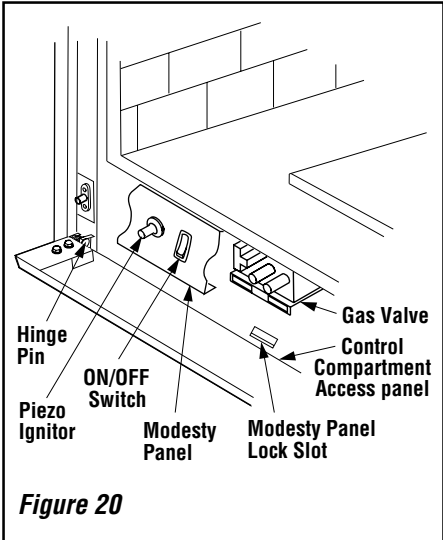

Figure 20
3- Open the control compartment access panel, by actuating the spring-loaded magnetic catches securing the panel, gently depressing the outer top corners of the panel until the catches "pop" the panel free and allowing it to swing out and down to open. *See Figure 20 on page 12.*
3. Remove the bottom control compartment access panel by compressing the spring-loaded hinge pin on the left side until it disengages from the left cabinet panel hole. Pull the panel away from the fireplace. **See Figure 20 on page 12.**
- 1- Open the control compartment access panel, (**Figure 20**) by actuating the spring-loaded magnetic catches securing the panel, gently depressing the outer top corners of the panel until the catches "pop" the panel free and allowing it to swing out and down to open.
- 2- Remove the bottom control compartment access panel by compressing the spring-loaded hinge pin on the left side until it disengages from the left cabinet panel hole. Pull the panel away from the fireplace. See **Figure 20**.
With gas line installed run initial system check-out before closing up the front of the unit. Follow the pilot lighting instructions provided in the Homeowner's Care and Operation Instructions. For piezo ignitor location see **Figure 20 on page 12** (millivolt appliances only).